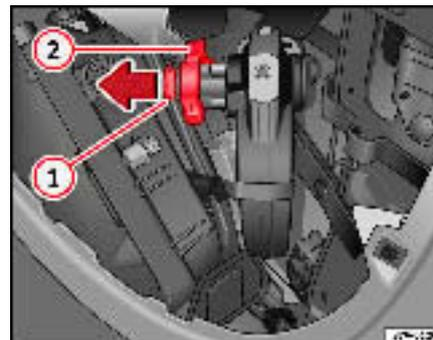

Fig. 134 Location of towing bracket
- Open the lock by turning the key ⇒ fig. 134 ① clockwise.
- Take out the wheel completely ② in the direction of the arrow and turn clockwise to the maximum.